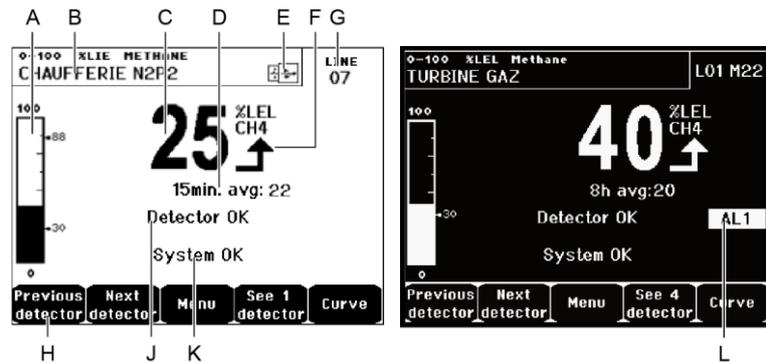

Figure 44: Example of the measurement display in normal mode and in inverse video.
- **See 1 detector:** Display in normal mode (Figure 44).
- L. Zone of indication of activated alarms with blinking threshold display. The screen changes to inverse video (Figure 44, screen on the right).